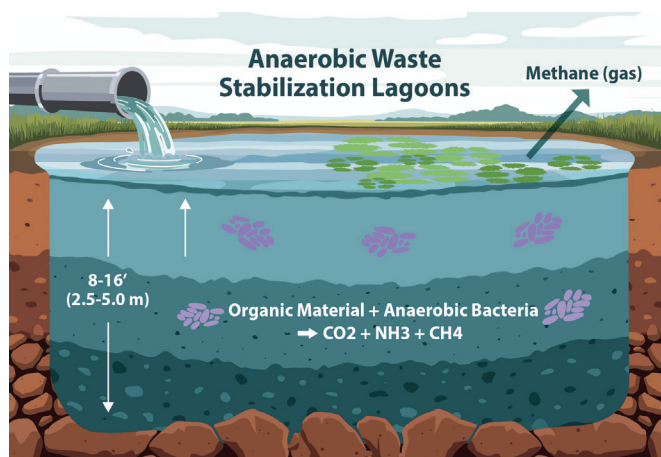

Figure 3. Anaerobic Waste Stabilization Lagoons
- **Description:** Anaerobic lagoons are designed to treat wastewater in an environment where little to no oxygen is present. These lagoons rely on **anaerobic bacteria** to decompose organic material. Anaerobic bacteria break down organic matter into simpler compounds without the presence of oxygen, producing gases like methane (Figure 3).